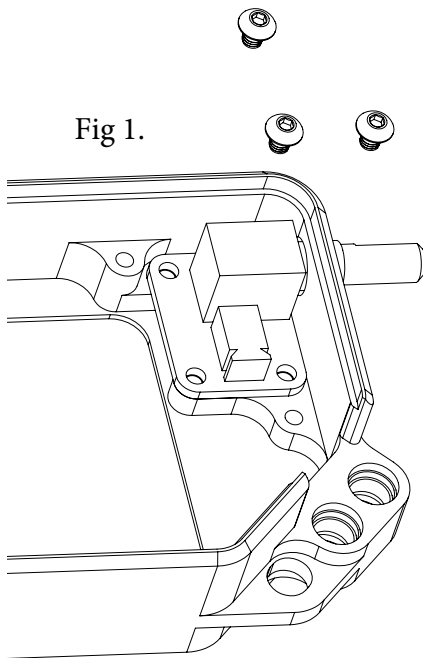

Fig 1.
1. *Install the **Encoder Board**:* Use three **Short Button Head** screws to secure the **Encoder Board** to the upper right hand corner of the **Housing**. (Fig 1.)